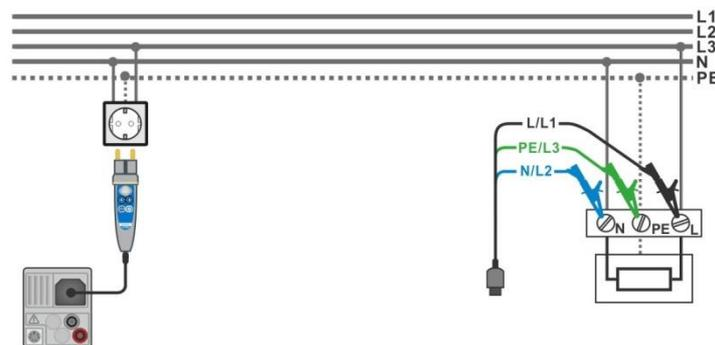

Figure 7.29: Connection of Plug commander and 3-wire test lead
- › Connect test leads or Plug commander to the object under test, see **Figure 7.29**.